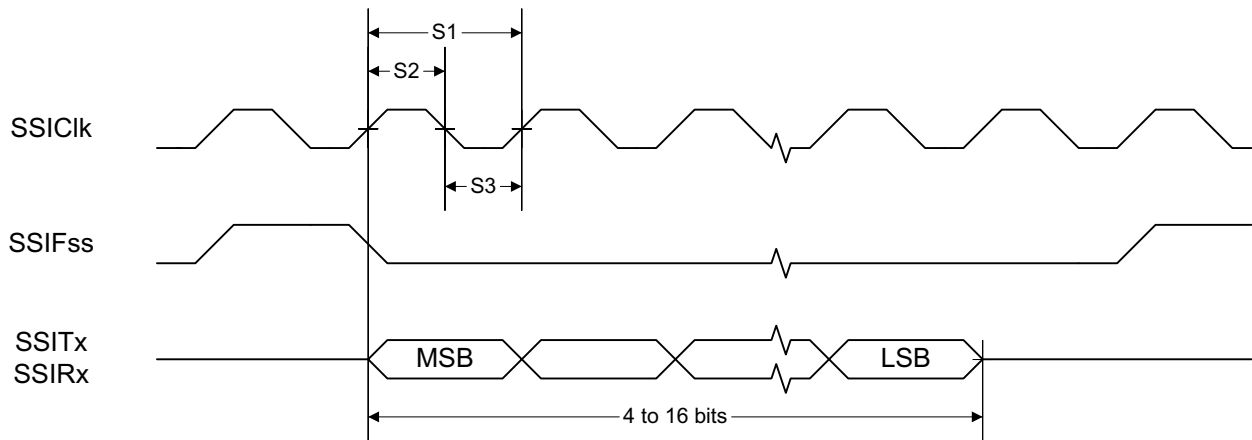
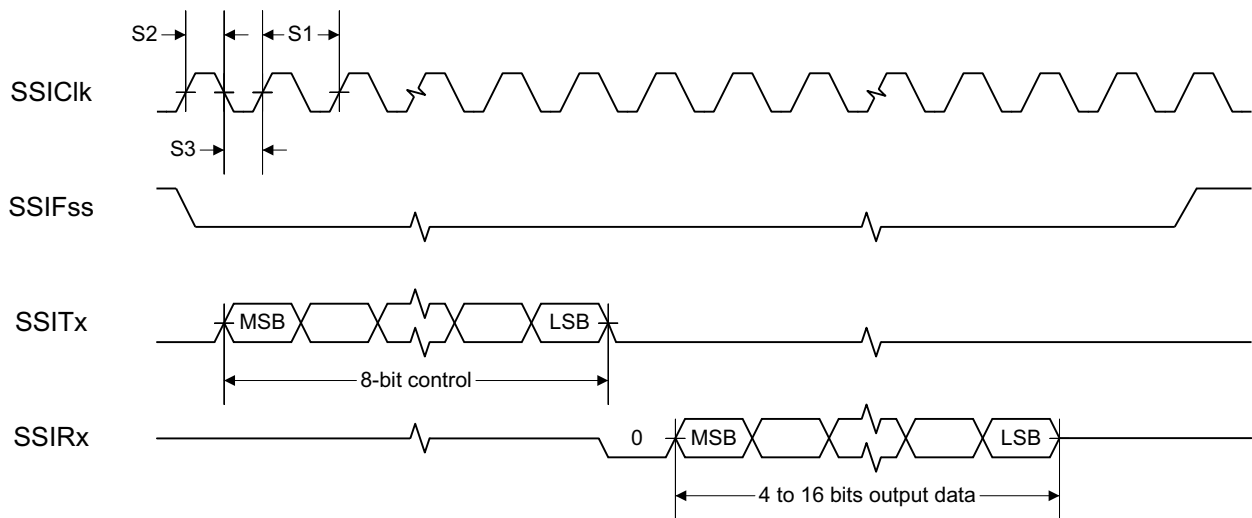
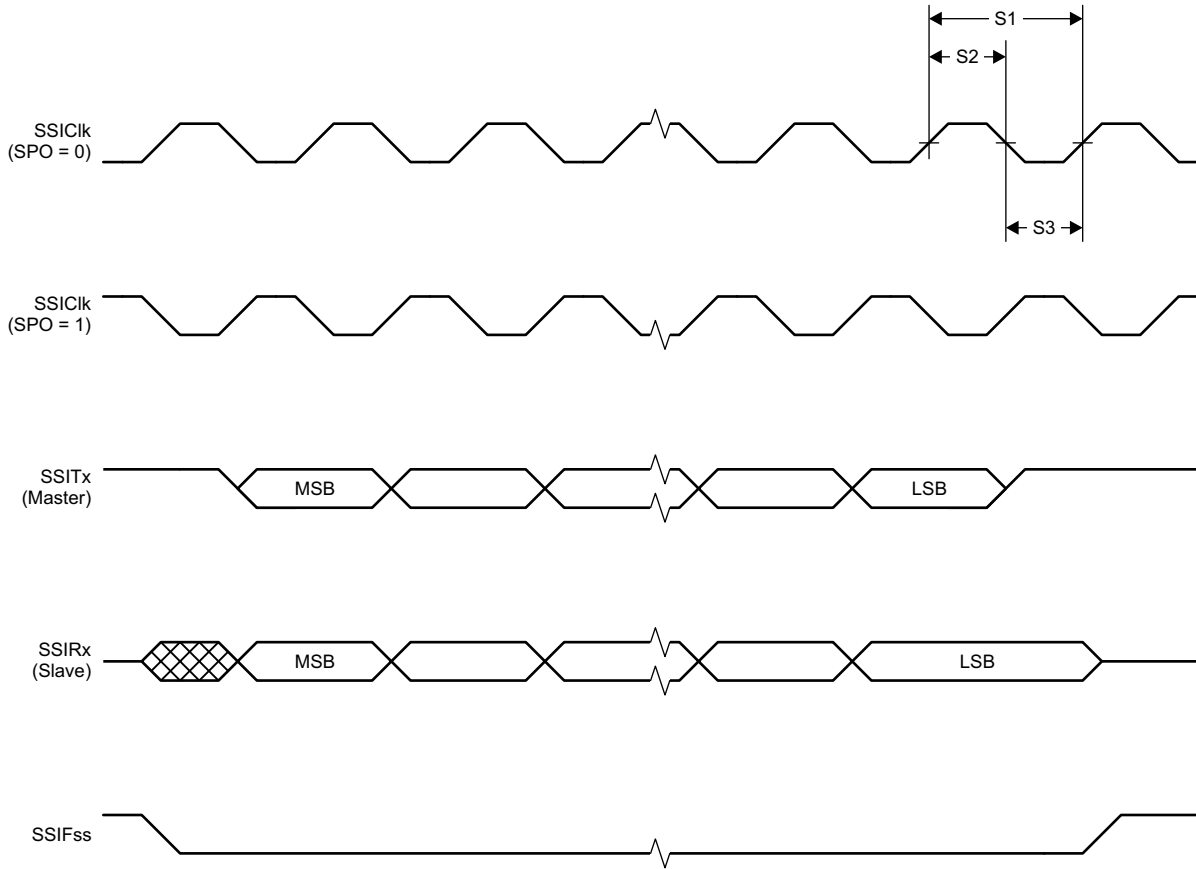

Figure 7-1. SSI Timing for TI Frame Format (FRF = 01), Single Transfer Timing Measurement
Figure 7-2. SSI Timing for MICROWIRE Frame Format (FRF = 10), Single Transfer
Figure 7-3. SSI Timing for SPI Frame Format (FRF = 00), With SPH = 1
- (1) Refer to SSI timing diagrams Figure 7-1, Figure 7-2, and Figure 7-3.
- (2) When using the TI-provided Power driver, the SSI system clock is always 48 MHz.